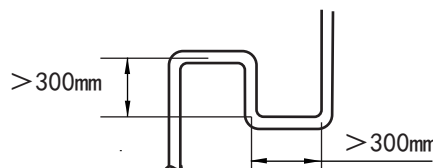

Fig.6-2
- When the main unit is over 20m from the above places, it is recommended to set a return oil bending every 10m of the air pipe in the main pipe, the return oil bending specification is as Fig. 6-2.
Pipe name	Code (As per the Fig. 6-2)
e.x.1: Refer to Fig.6-2, the capacity of downstream units to L2 is $71 \times 4 = 284$, i.e. the gas pipe for L2 is $\Phi 22.2$, liquid pipe is $\Phi 9.5$.
Main pipe L1 in the Fig.6-2, which upstream main units total capacity is $10+8+8=26$ HP, base on table 6-5, the gas/liquid pipe diameter are $\Phi 38.1/\Phi 22.2$, total capacity of the downstream indoor unit is $56\times 3+71\times 6+112=706$, base on table 6-4, the gas/liquid pipe diameter are $\Phi 31.8/\Phi 19.1$, take the large one for your selection, final confirm the main pipe diameter is: gas/liquid pipe $\Phi 38.1/\Phi 22.2$.